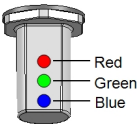

Figure 6: LEDs
- **Inverter LED indicator** (See *Figure 6*) : Indicate the inverter statuses as described in the following table: